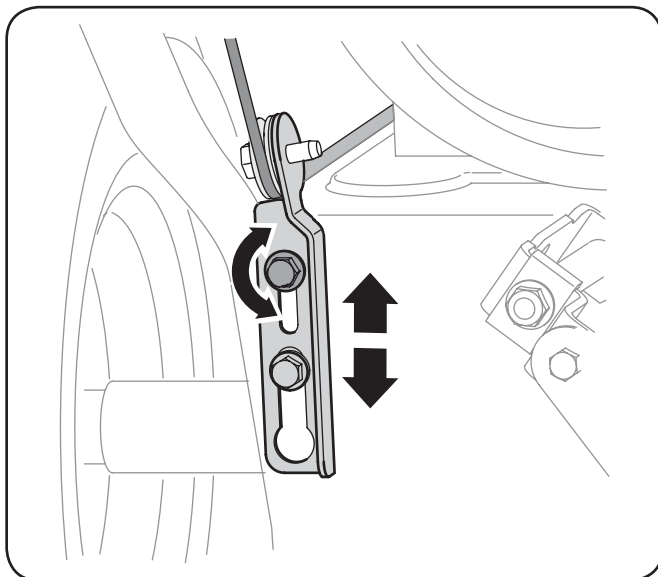

Figure 3-18
4. Allow the auger to remain engaged for approximately ten (10) seconds before releasing the auger control. Repeat this several times.
7. To readjust the control cable, loosen the upper hex screw on the auger cable bracket. See Fig. 3-18.